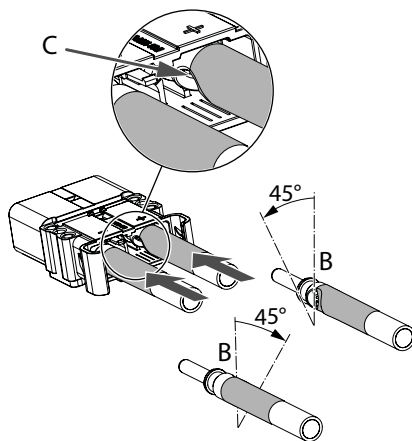

Fig. 16:
1. Turn the crimp area (B) to about 45° from vertical (Fig. 16/B).
2. Push in the main contacts so that the crimping area points downwards at an angle towards the inside of the plug, as shown in (Fig. 16/C).